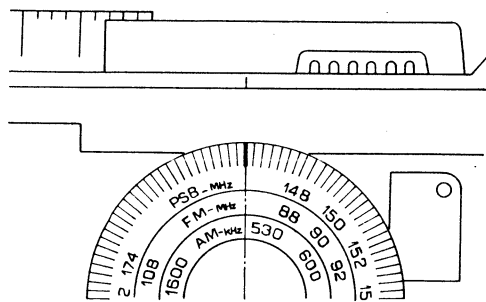

Fig. 7
2. When mounting dial scale, turn tuning shaft to fully clockwise, then set start points as illustrated in fig.7.